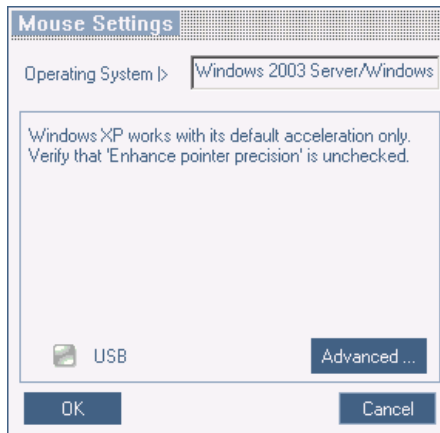

Figure 24 Mouse Settings box
1. From the Toolbar click  / **Manual Settings**. The **Mouse Settings** box appears see Figure 24.